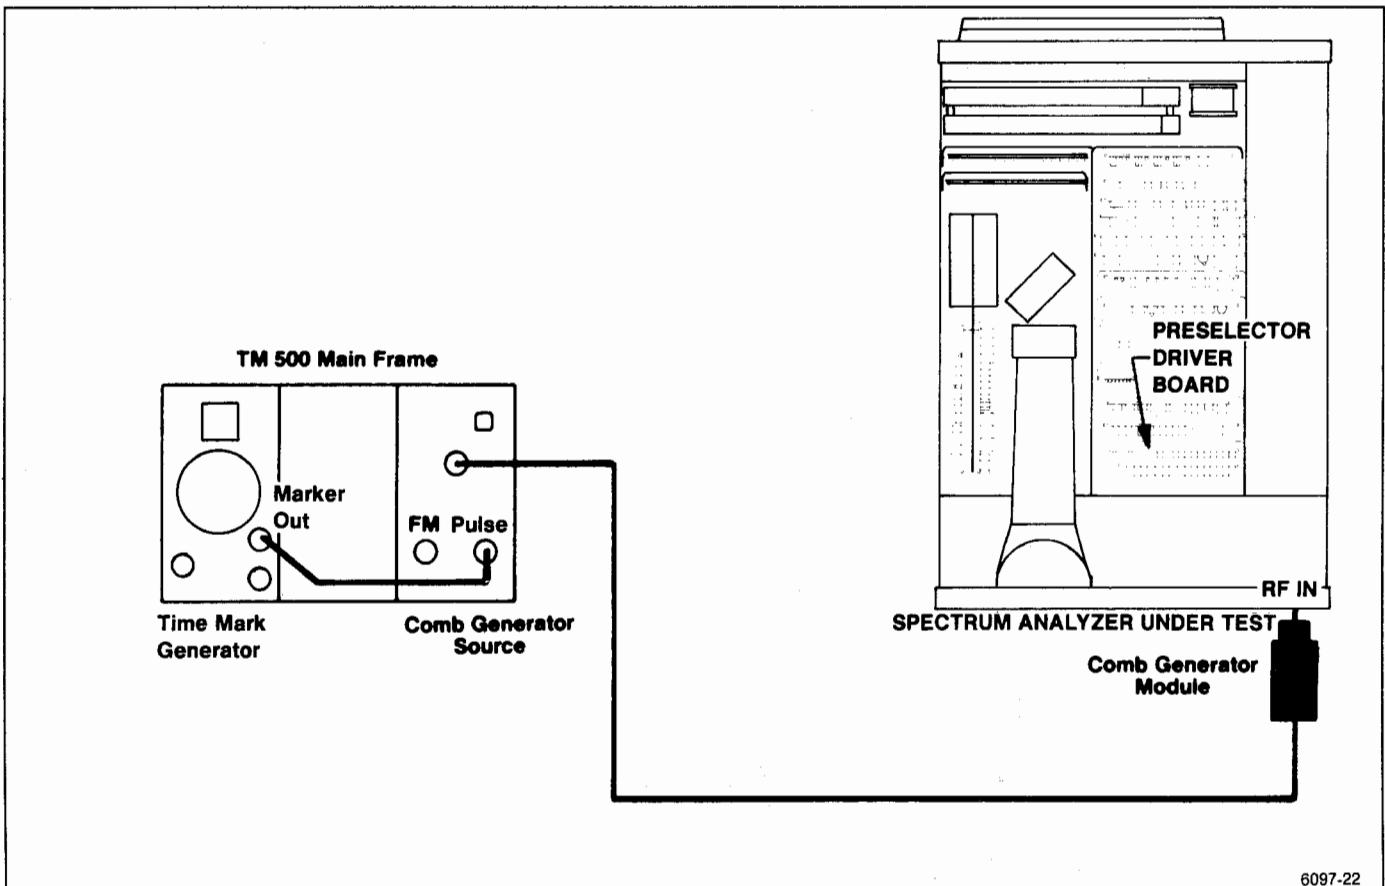

Figure 5-22. Preselector Driver adjustment setup.
a. Connect the test equipment as shown in Figure 5-22.